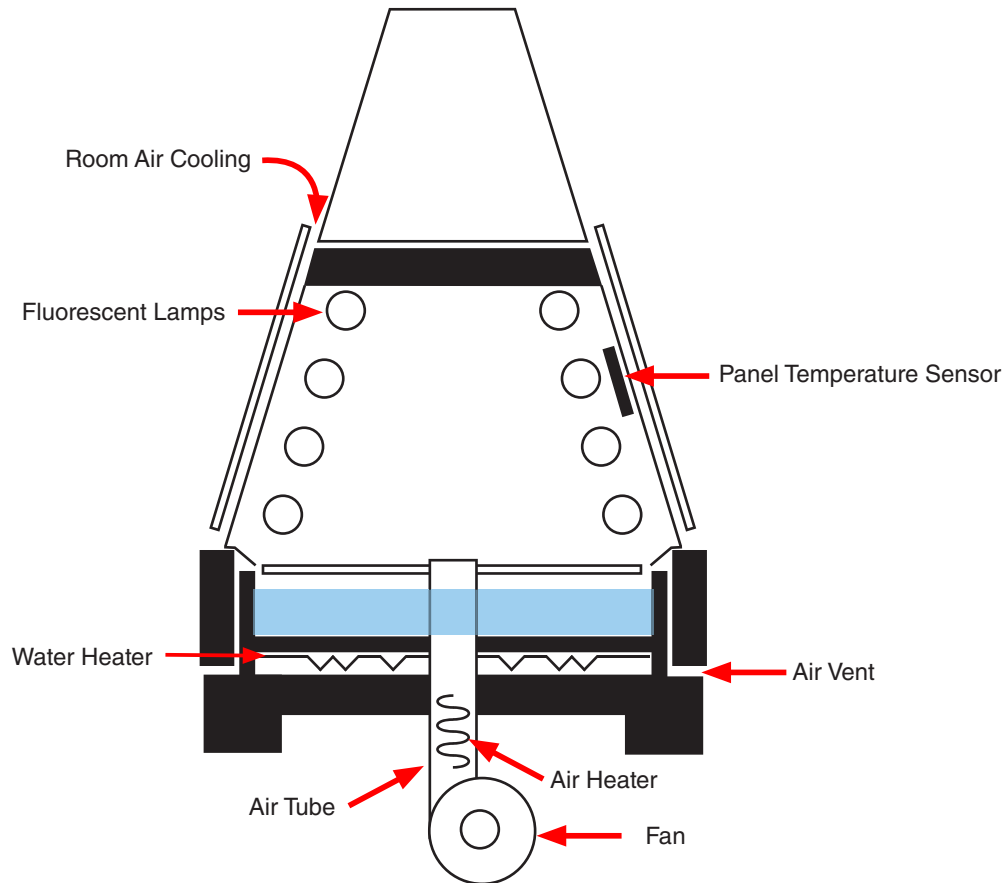

Figure 8.4: Temperature control components schematic.
- **Fan:** The fan is located on the underside of the unit (Figure 8.4). It operates continuously throughout the UV cycle.
- The fan (Figure 8.4) is operated for the first few minutes of the condensation cycle to provide a rapid cooling of the test chamber to the condensation temperature set-point.
- The water heater, air heater, and fan are all off (Figure 8.4).
- **Fan:** The fan is located on the underside of the unit (Figure 8.4).